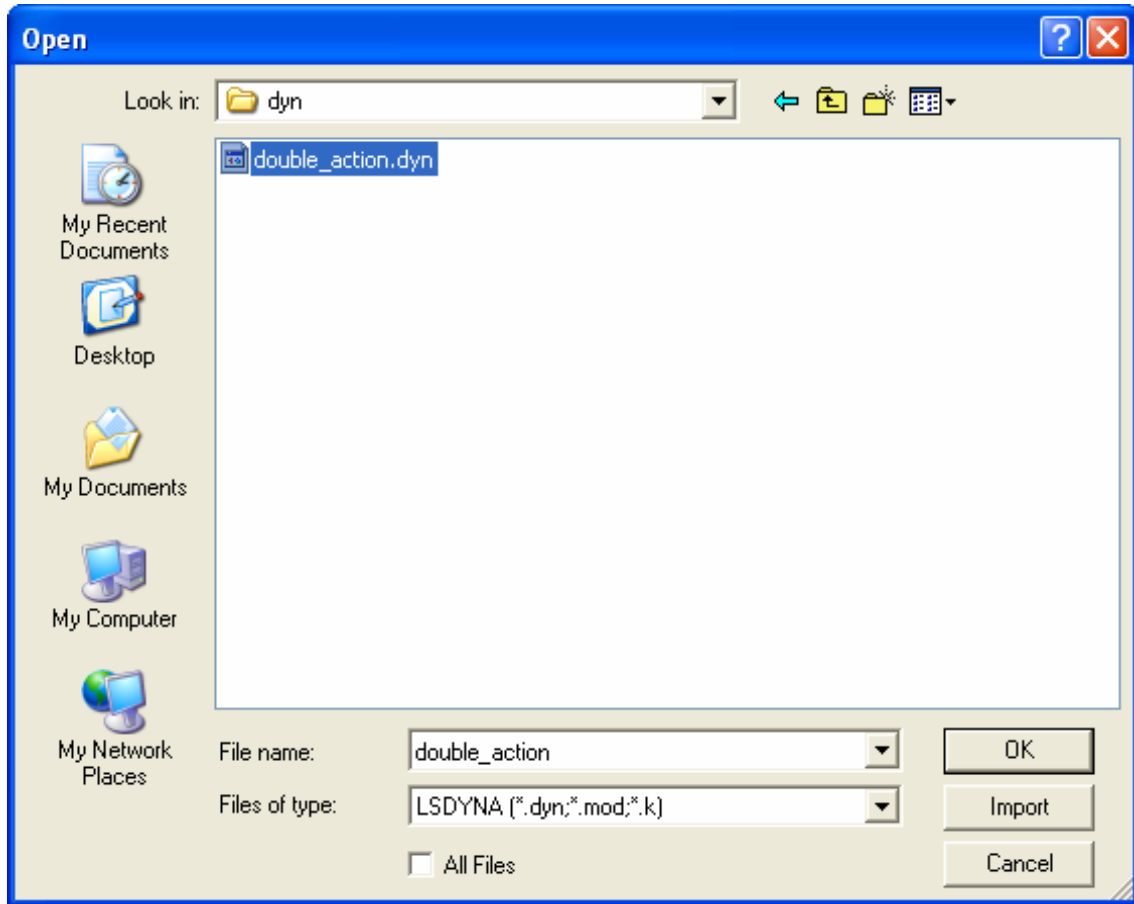

Figure 2.1 Import file dialog box
1. From the menu bar, select **File→Import** to open the IMPORT file dialog box illustrated in Figure 2.1. Next, Click the drop-down button of File Type and select “**LSDYNA(*.dyn*.mod;*.k)**”. Then, go to the training input files located in the CD provided along with the eta/DYNAFORM installation. Locate the data file: **double_action.dyn**.